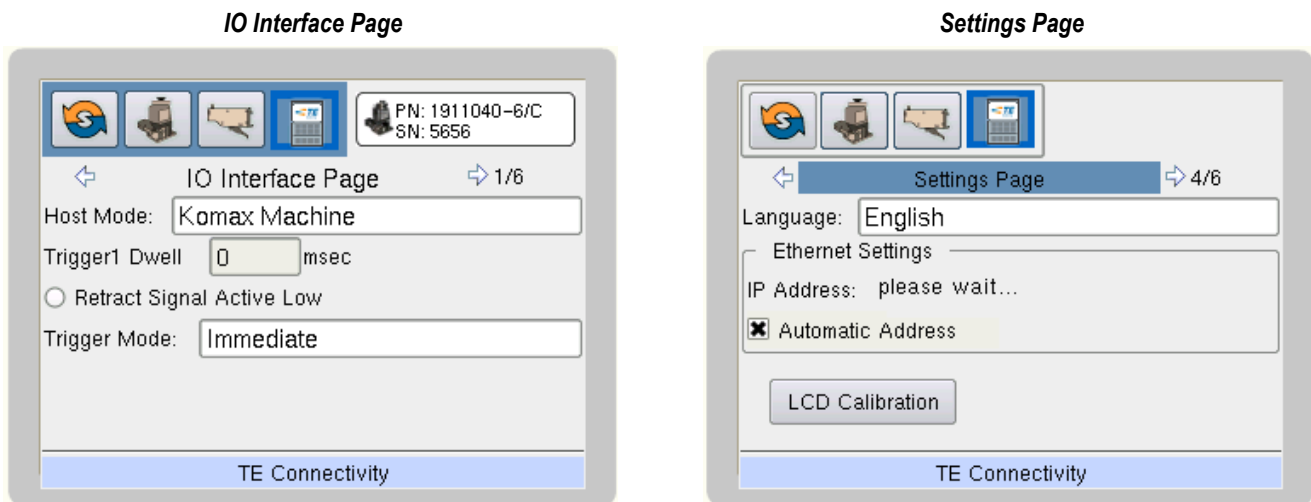

Figure 22
- c. Click the arrow to enter the “IO Interface Page”. See Figure 22.
- d. Click the right arrow to the “Settings Page”. See Figure 22.
- e. When the precision controller is connected to a Komax leadmaker, the IP address will need to be set. Click down until “Automatic Address” is highlighted as shown in Figure 22. Then click the Check button. This will uncheck the box with the X. The screen will change to show an IP address of 169.254.1.1 as shown in Figure 22. This may take some time.